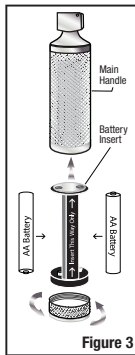

Figure 3
2. Replace with appropriate size batteries. Insert 1 battery positive end first and the other negative end first into battery insert, paying attention to the polarity markings. Slide battery insert back into handle following the direction of the "Insert This Way Only" arrows. Screw bottom cap on and tighten (Figure 3).